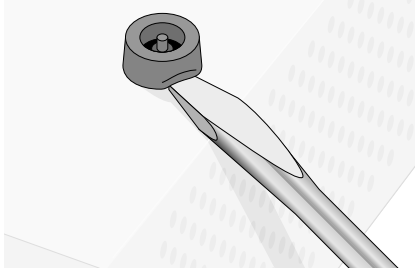

Figure 2 Removing the Rubber Feet
- a. Remove the snap-on plastic feet from the bottom of the unit, as shown in Figure 2.